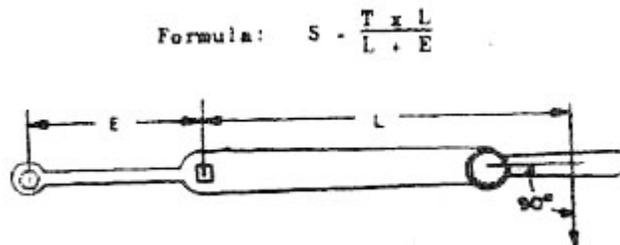

Figure 4-15. Wrench With Adaptor Attached to Square Drive
6. If an adaptor or extension attached to the square drive, which changes the length of the torque wrench, the readings on the dial will not give the actual torque. A simple formula, however, enables one to figure out what the dial should read for a pre-determined torque using any adaptor (Figure 4-15).